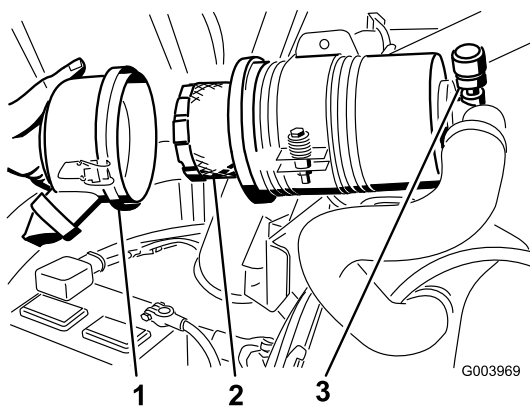

Figure 59
3. Remove and replace the filter (Figure 59).